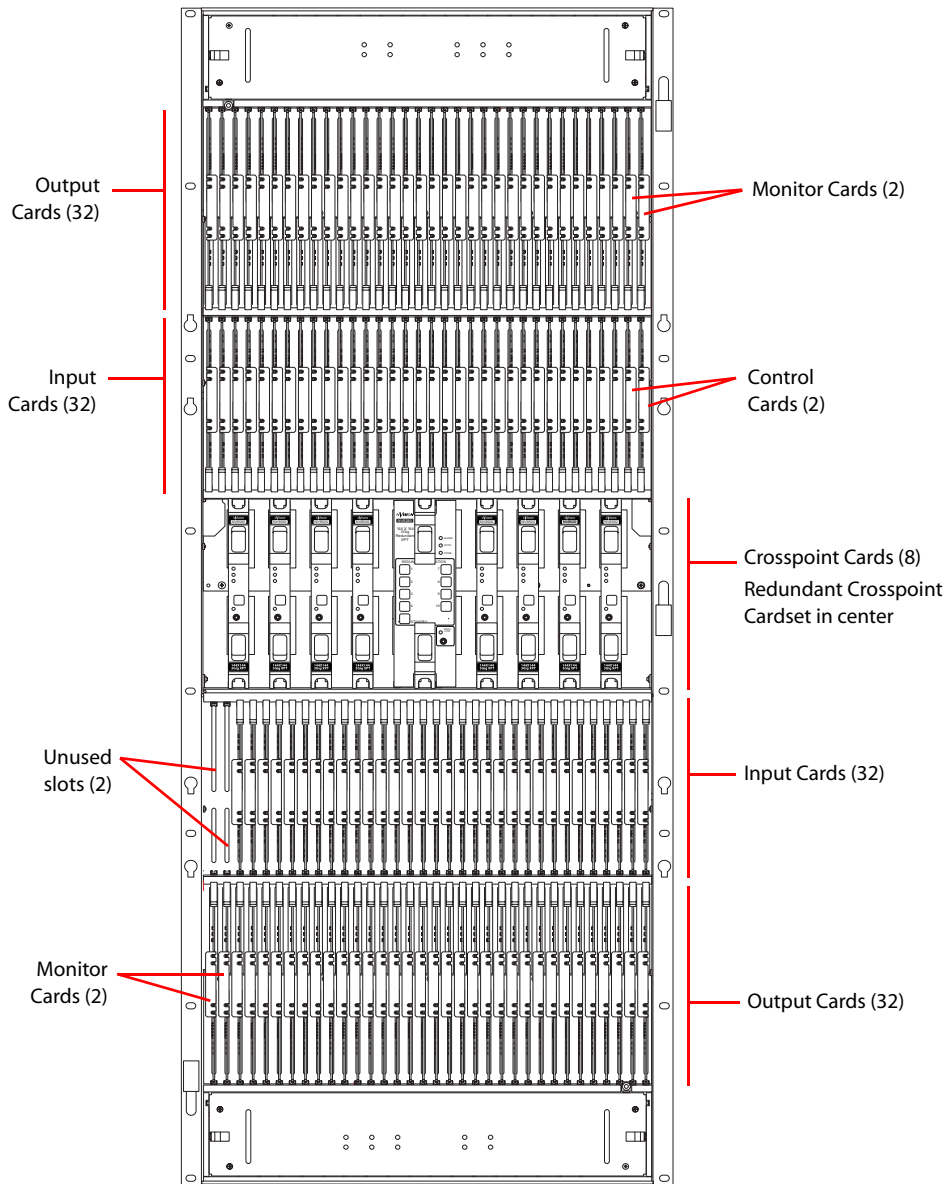

Figure 2-7. NV8576 and NV8576-Plus Router Frame
- 1 Insert the cards into the frame by sliding them into card guides from the front of the router. Insert the card in designated card guides, as shown in Figure 2-7.